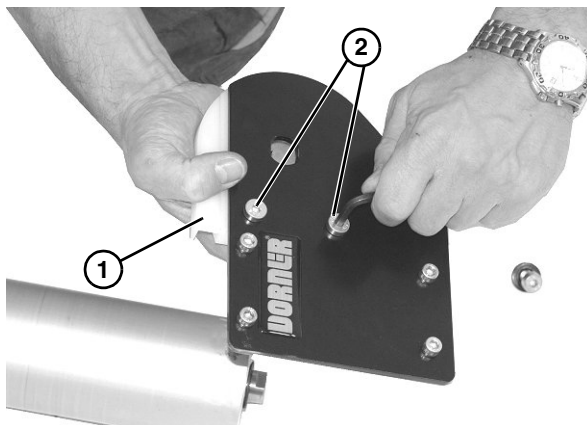

Figure 37
7. Check idler terminal assembly (**Figure 37, item 1**) for wear. If worn, remove two low head cap screws (**Figure 37, item 2**) and replace.